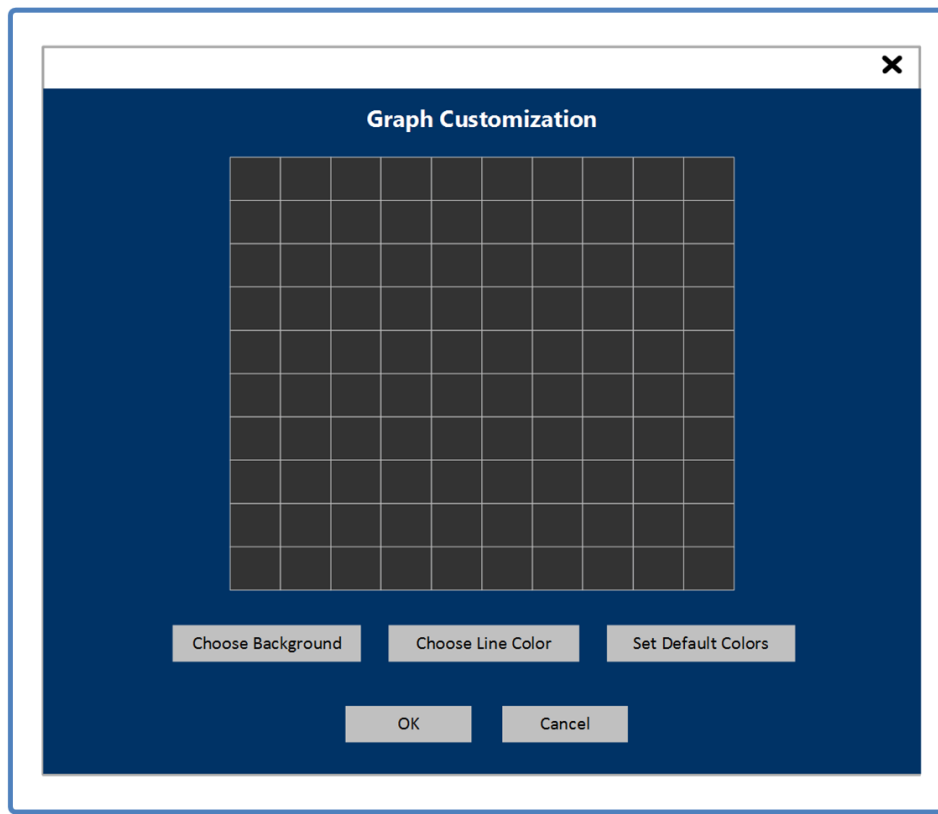

Figure 4-19 Tools – Customize Graph Color Controls
- f. Customize Graphs - This tool allows the user the ability to customize the graph features of the LS-28-DRSM application to better meet their individual needs. Customization includes the ability to select any color for the graph backgrounds and measurement line colors. Selecting the *Set Default Colors* will return the graphs to the predefined defaults that were present during installation. Figure 4-19 below illustrates the control interface for customizing graph colors.